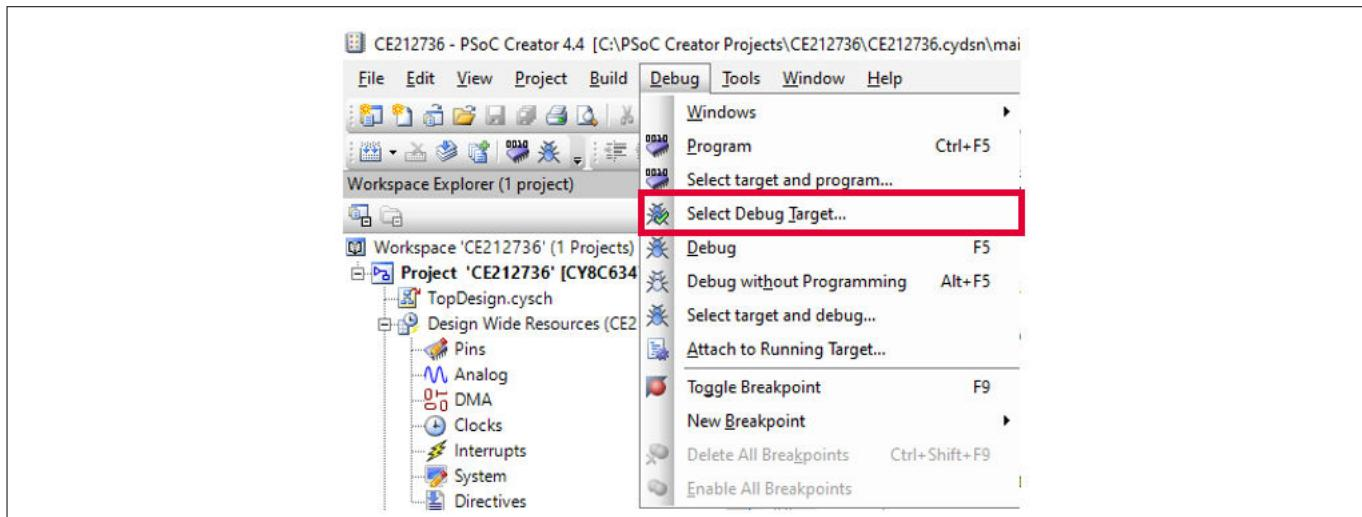

Figure 109 Selecting debug target
- In PSoC™ Creator, choose **Debug > Select Debug Target**, as Figure 109 shows